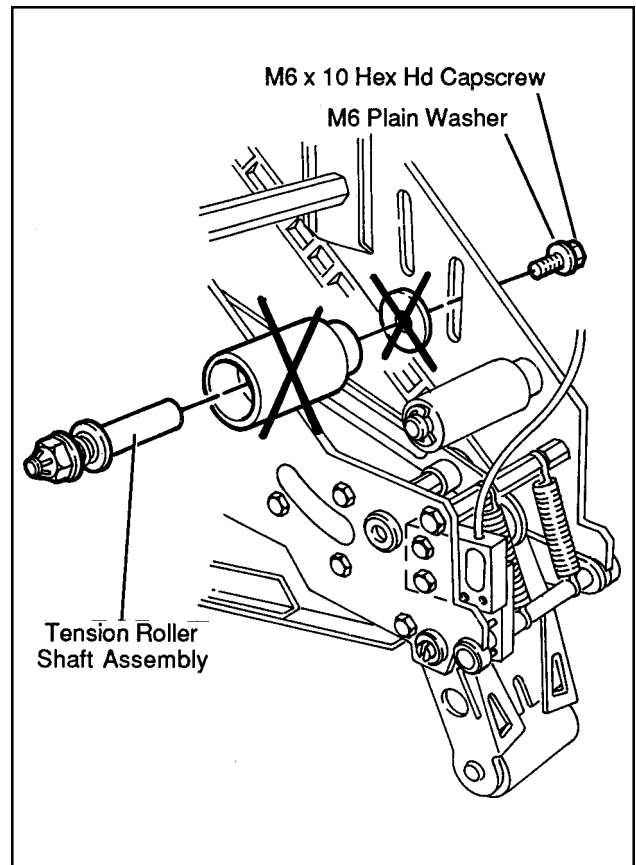

Figure 2-10
1. Remove the M6 x 10 mm hex head cap-screw that fastens the tension roller shaft to the taping head side plate and remove the roller/shaft assembly. See Figure 2-10.